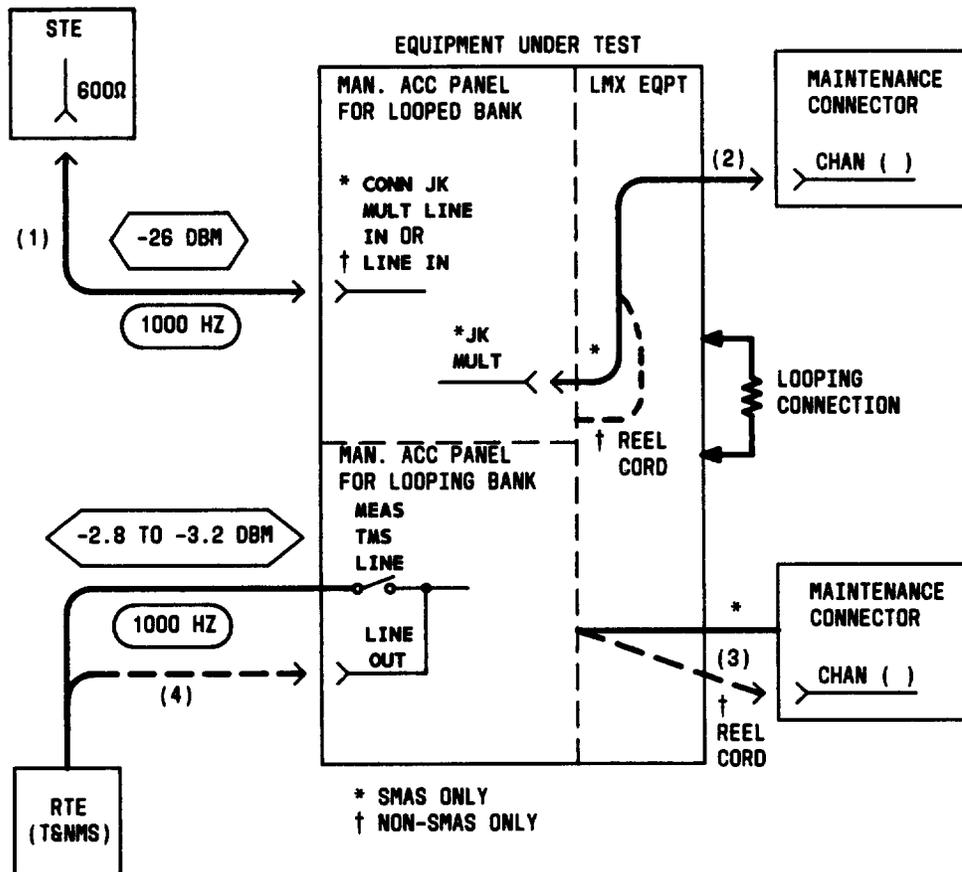

Fig. 14—Patching Diagram—Crosstalk Test—Equal-Level Looping—Channel Gain Verification (1000 Hz)
- 5a* Connect the STE to the *looped*-bank CONN JK MULT LINE IN jack (on the 22AR or AT MAP) [patch (1), Fig. 14].
- 5b† On an adjacent non-SMAS J98626() frame, connect the STE to the *looped*-bank LINE IN jack (on the 22AU MAP) [patch (1), Fig. 14].
6a* Connect the JK MULT connector (on the 22AR or AT MAP) to the CHAN BANK connector (on the maintenance connector) for Channel 1 of the **looped** channel bank under test [Test A, Table E, and patch (2), Fig. 14].
test) for Channel 1 of the **looped** channel bank under test [Test A, Table E, and patch (2), Fig. 14].
7b† Connect the retractable cord (on the 22AU MAP) to the CHAN BANK connector for the Channel 1 position for the **looping** bank [Test A, Table E, and patch (3), Fig. 14].
Note: If the T&NMS is not available via the MEAS TMS LINE switch, connect the RTE to the LINE OUT jack [patch (4), Fig. 14].
11 Remove patch (2), Fig. 14 [and patch (3), if used] from the maintenance connector(s).